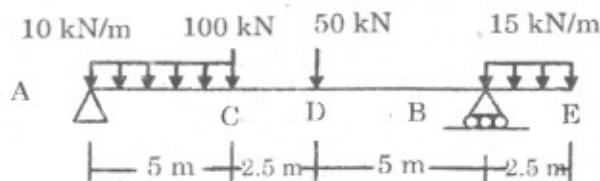

Fig. 3
3. (a) Draw S.F.D. and BMD for the beam shown Fig. 3. Indicate the numerical values at all important sections. Find the position of contra flexure, magnitude and position of maximum BM : [9]